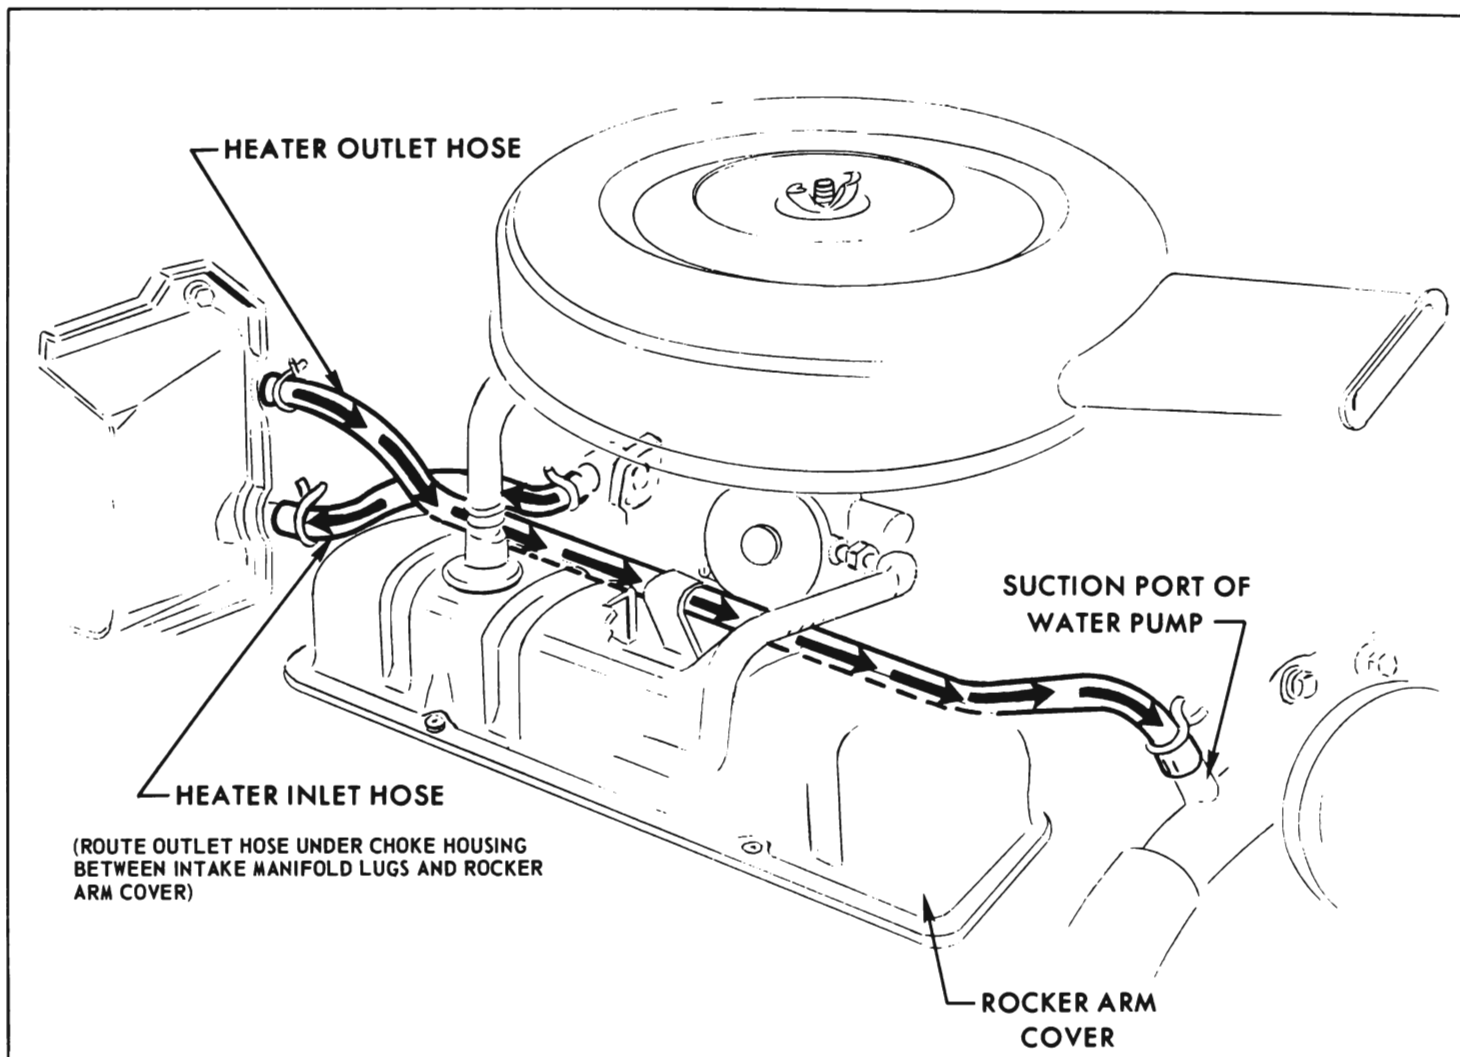
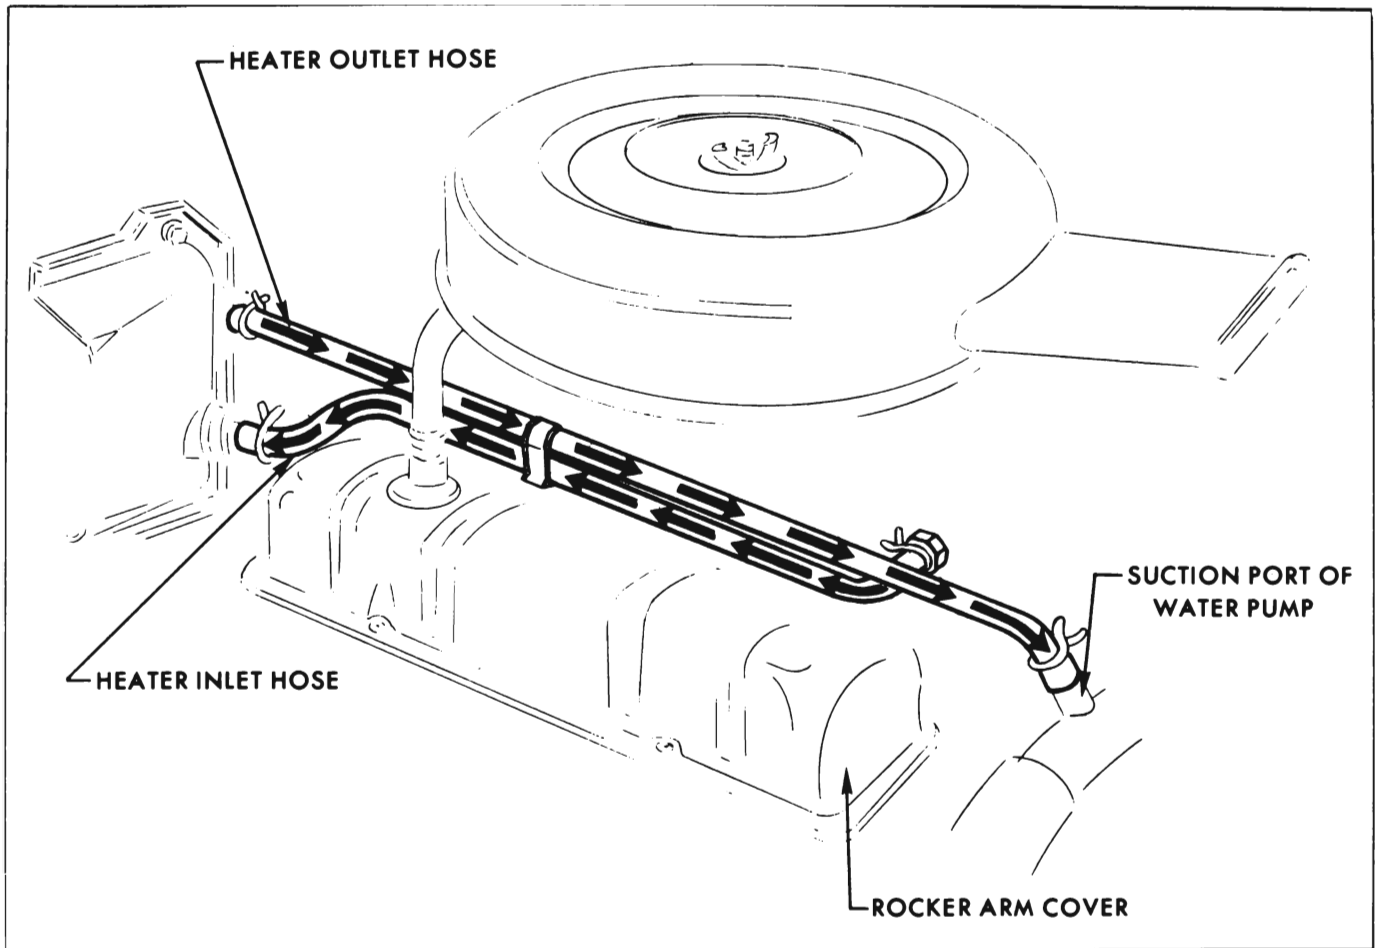

Figure 11-13—Heater Hose Routing, V-8 Engine
Figure 11-14—Heater Hose Routing, V-6 Engine
The heater core, located in the heater assembly, has water flowing through it at all times. Water flow through the heater core on the V-8 engine is from the rear of the intake manifold to the inlet port (lower) of the heater core, through the heater core, and from the outlet port (upper) of the heater core to the suction port of the water pump (see Figure 11-13). The routing of the water for the heater system on V-6 engines is similar to the V-8 routing, except that the flow begins at the right front of the intake manifold (see Figure 11-14). The heater assembly has fixed vane outlets to distribute air evenly throughout the passenger compartment.
The FAN lever operates a four-position switch. A two resistor blower resistor assembly is connected in series between the blower motor and the switch, and serves to reduce the speed of the motor. When the FAN lever is positioned fully to the left, the blower motor is off. Movement of the lever to the right provides low, medium and high blower speeds. A 180° F. thermostat is provided as standard equipment on all series cars. The thermostat is located under cylinder water outlet (thermostat housing). See Figures 11-13 and 11-14.
5. Disconnect heater inlet and outlet hoses from heater core inlet and outlet ports (see Figures 11-13 and 11-14).